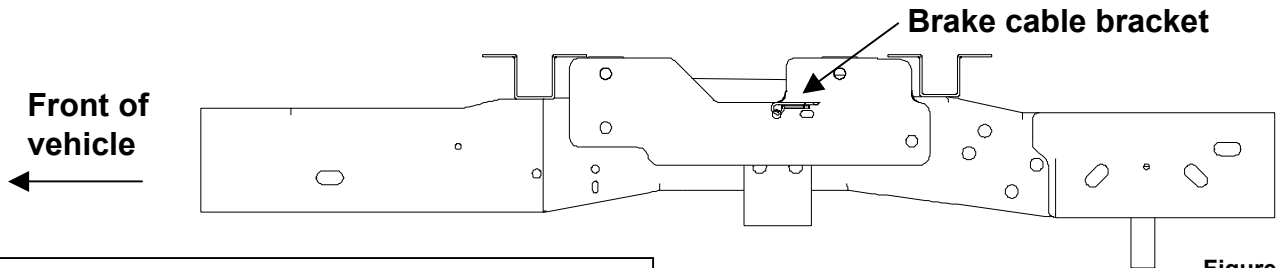
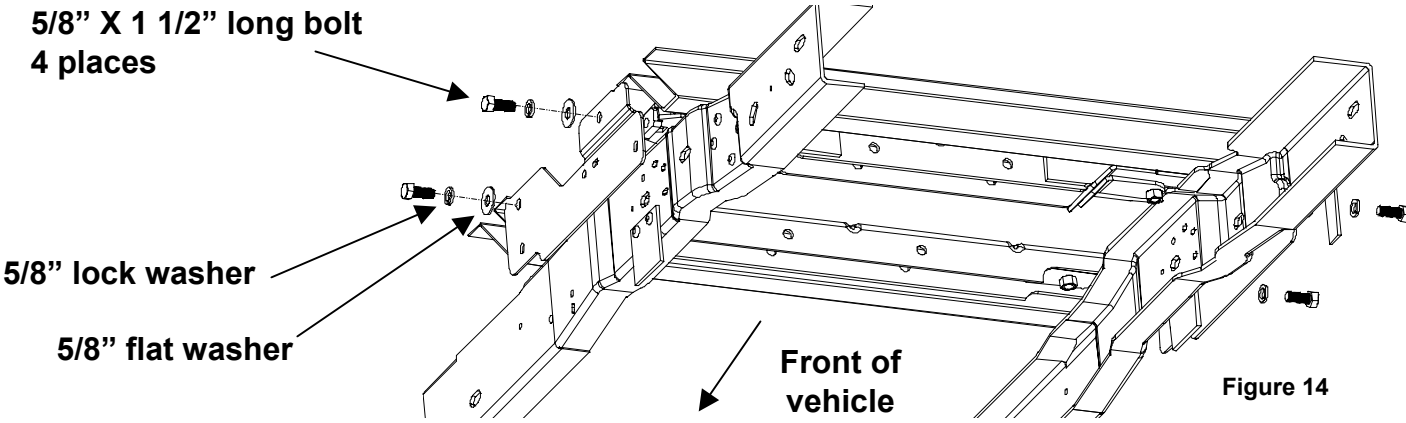

Figure 13
Figure 14
9. Re-locate brake line bracket to rail bracket through hole given in the frame rail bracket using the original brake cable bracket hardware, tighten brake cable hardware with a wrench (**Figure 13**). Do not attempt to re-attach brake line bracket through chassis rail. Loosely attach frame brackets to mounting kit rails using 5/8" X 1 1/2" long bolts, flat washer, and lock washers (**Figure 14**). Tighten all mounting kit bolts to hand tight.